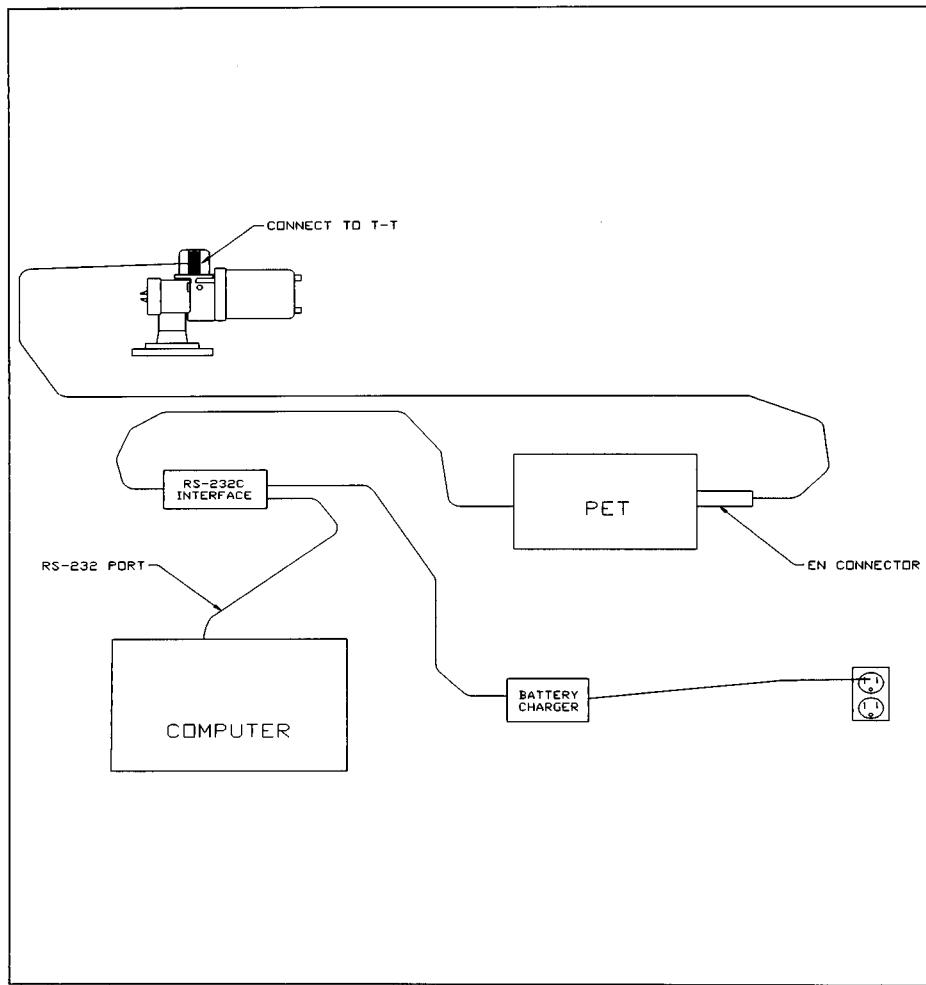

Figure A-1
- | 3. Disconnect the infrared connector, and connect the computer and PET to the gauge per Figure A-1. Power up PET/gauge as required.